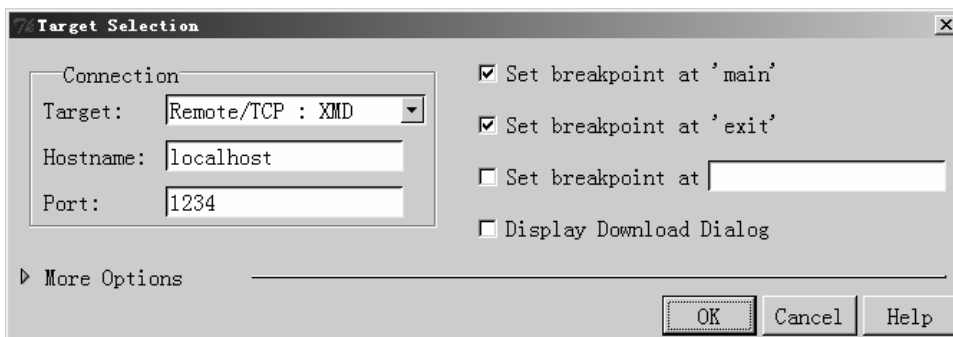

Figure 33: GDB Target Selection
- In GDB, select **File** → **Target Settings** to display the Target Selection dialog box as shown in Figure 33